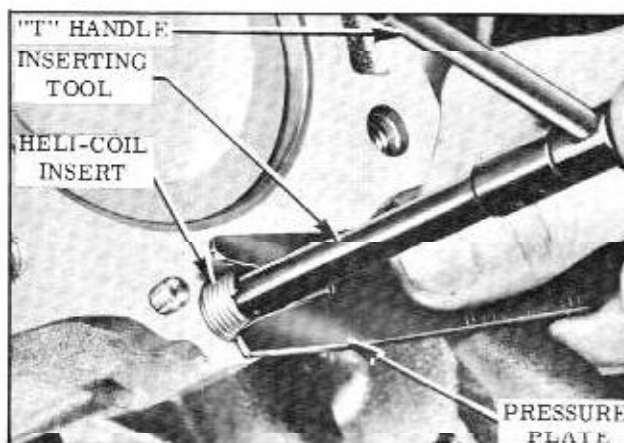

Fig. 8-53 Installing Insert
- c. While maintaining pressure on the insert, turn it clockwise into the hole to engage the first 2 or 3 threads. **DO NOT APPLY PRESSURE WITH THE INSERTING TOOL.** Remove the pressure plate and continue the installation until the insert is $1/4$ to $1/2$ turns below the surface. (Fig. 8-53)